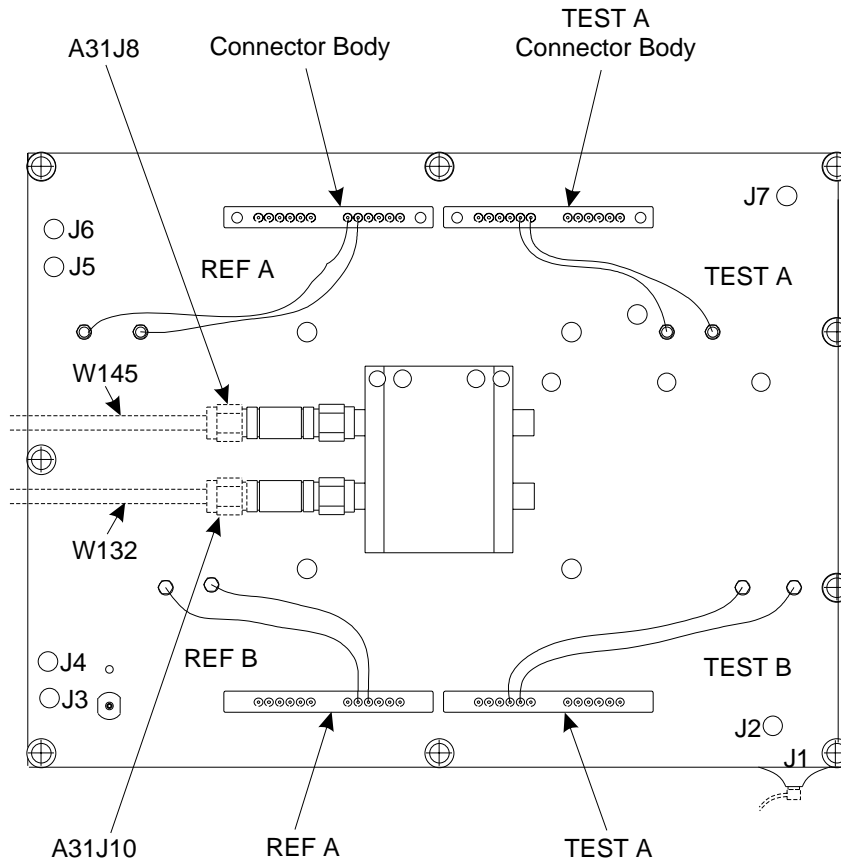

Figure 8-14. A31 Buffer Amplifier/Sampler Assembly, Details
- Step 1. Disconnect the semi-rigid coaxial lines, W83 and W84, from the 20 dB pads that are part of the Buffer Amplifier/Sampler assembly; see Figure 8-14. (For units with Option 11, the semi-rigid coaxial lines are W46 and W47.)
- Step 3. Disconnect the two cable connectors from the TEST A connector body on the Buffer Amplifier/Sampler assembly (see Figure 8-14). Similarly, disconnect the two cable connectors from the REF A connector body.